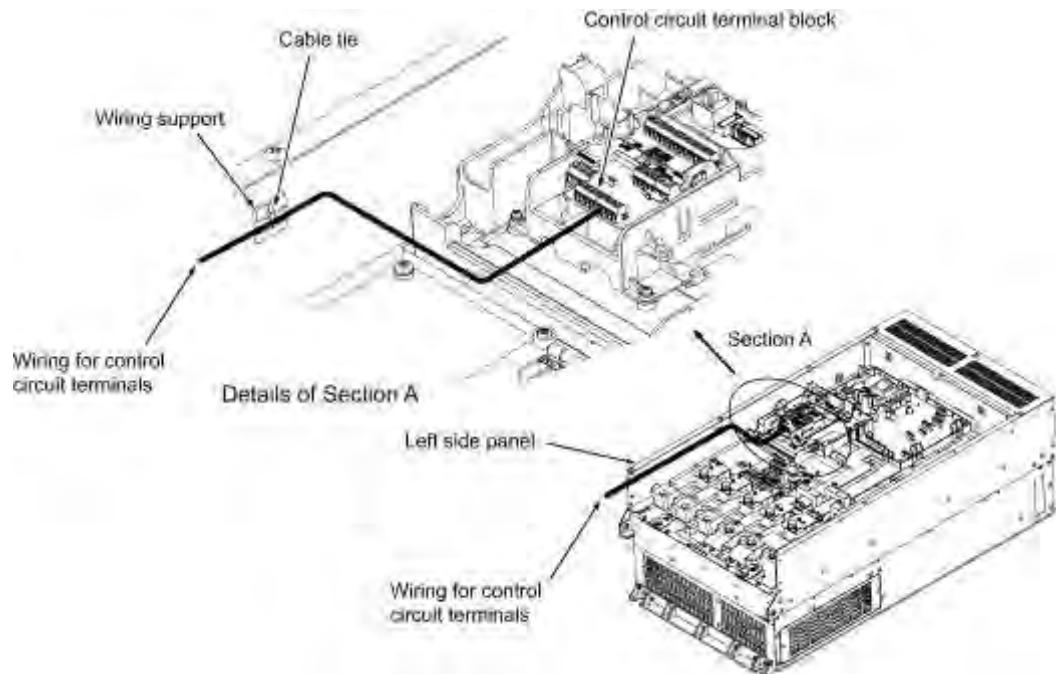

Figure 2.2-22 Wiring Route and Fixing Position for the Control Circuit Wires
- (1) As shown in Figure 2.2-22, route the control circuit wires along the left side panel to the outside of the inverter.
- (2) Secure those wires to the wiring support, using a cable tie with 3.8 mm (0.15inch) or less in width and 1.5 mm or less in thickness.